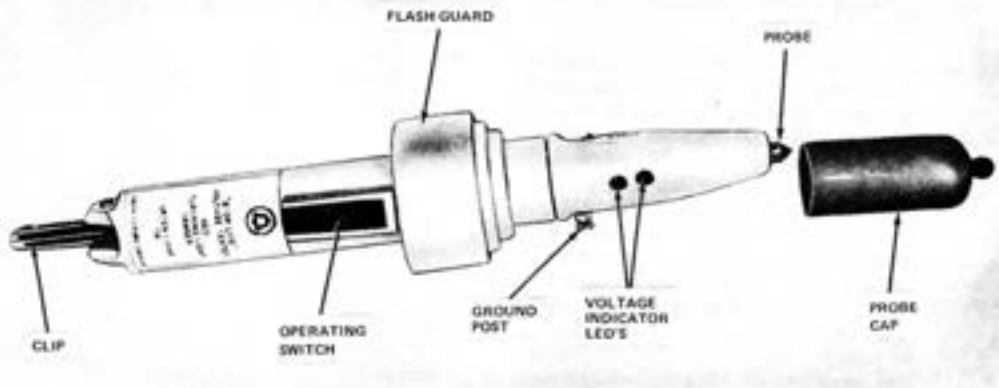
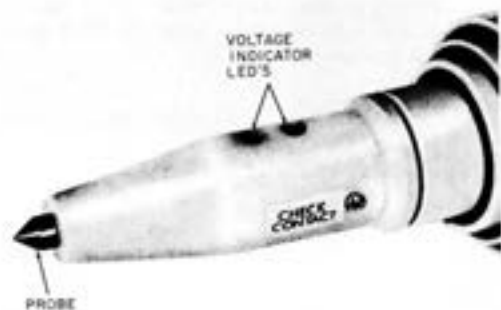

Fig. 1—188A Test Set
Fig. 2—Voltage Indicators
- Change Fig. 1, 2, 5 and 6.
3.01 The 188A test set (Fig. 1) is a yellow plastic two-piece unit that weighs approximately 1 pound. The front housing contains the carbide probe tip and the light emitting diode (LED) voltage probe indicators (one green and one red), Fig. 2.
3.04 Conductive Probe Cap: The conductive probe cap (Fig. 1) provides protection from the sharp tip of the probe. When placed on the handle (clip end) of the 188A test set, it provides the attachment knob for the 188A ground cord and the contact surface for the hand of the user as required in paragraph 7.01.